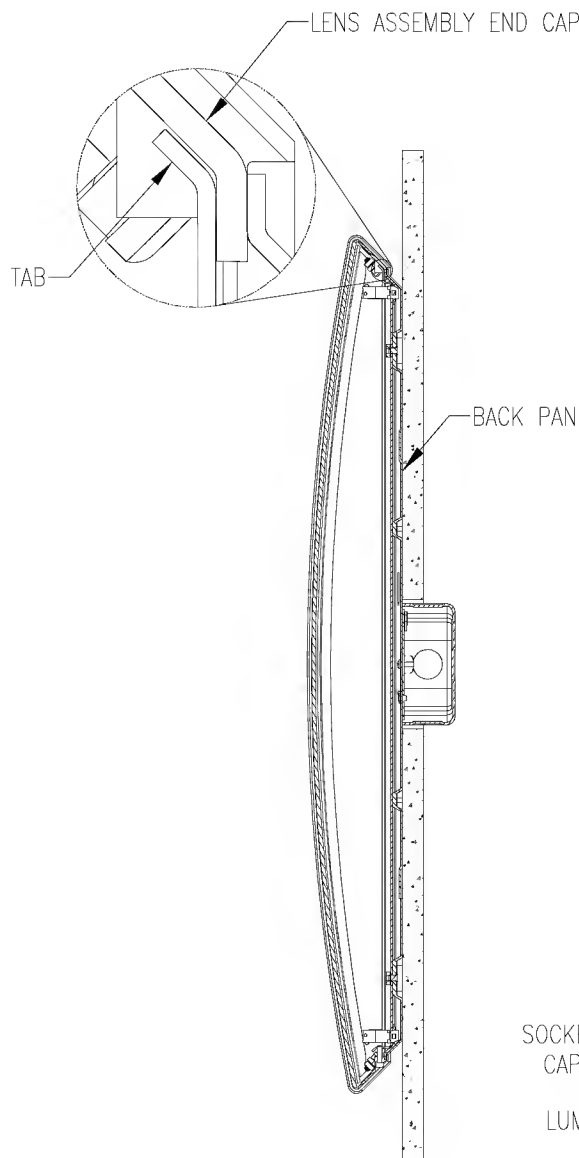
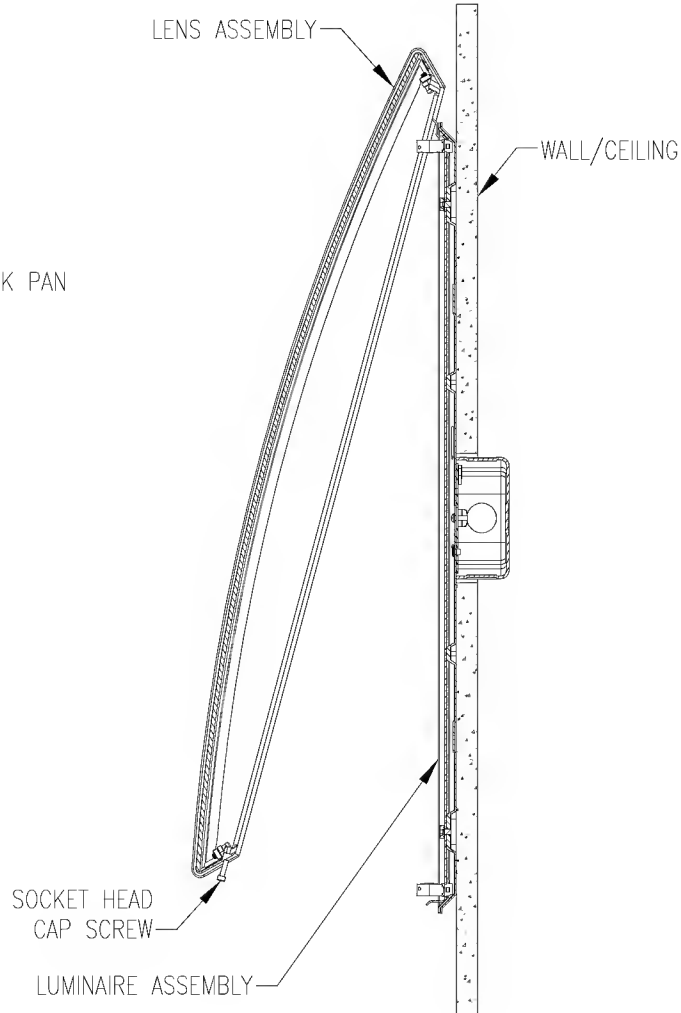

FIG. 3
FIG. 2
LENS ASSEMBLY INSTALLATION (FIG.2 & FIG.3):
1. Align LENS ASSEMBLY with LUMINAIRE ASSEMBLY. End with SOCKET CAP SCREW, in LENS ASSEMBLY, should be opposite end of BALLAST/SOCKET TRAY with (2) tabs.
2. Angle LENS ASSEMBLY (FIG.2).
3. Slide bottom edge of LENS ASSEMBLY END CAPS under TABS of BALLAST/SOCKET TRAY (FIG.3).
4. Rotate LENS ASSEMBLY down so that it sits against BACK PAN (FIG.3).